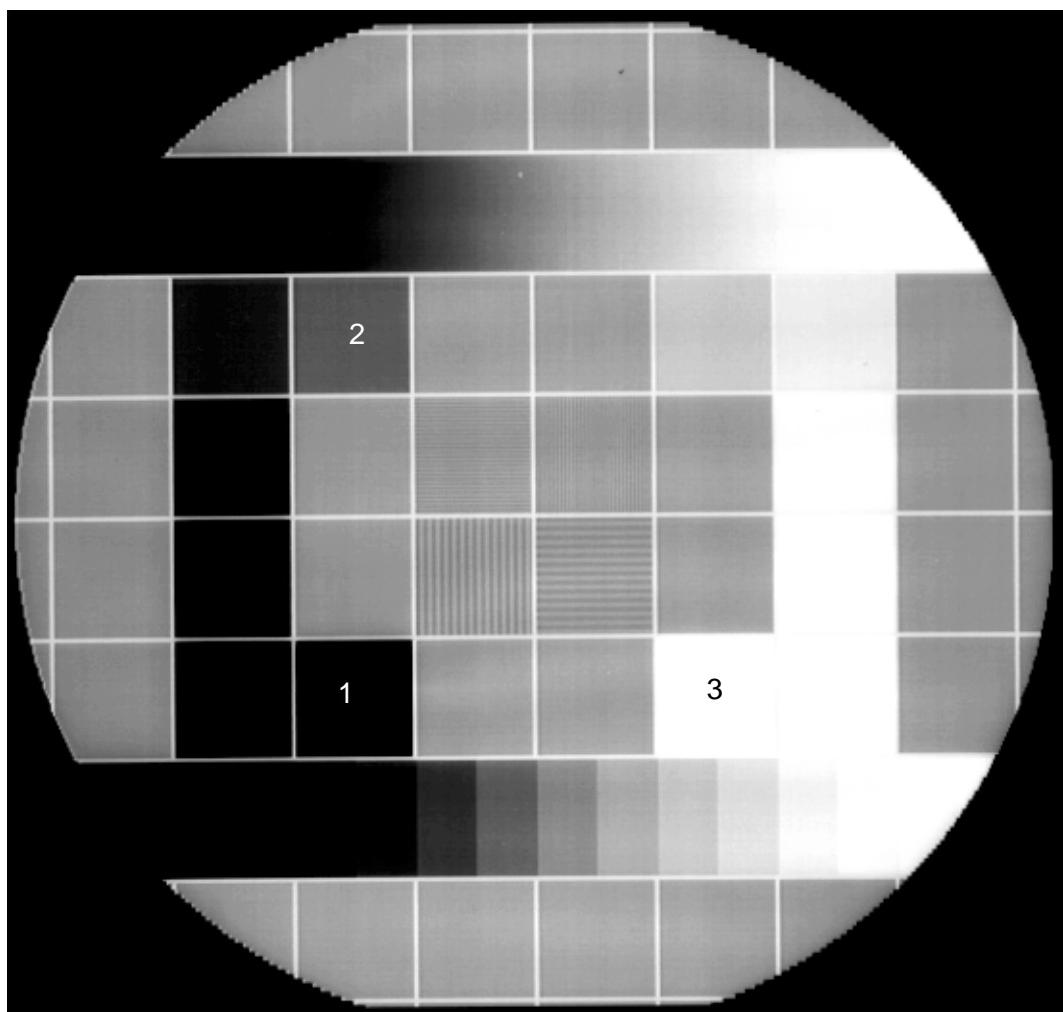

Fig. 1
- Change B until the 40% gray level (see Fig.1) corresponds to the nominal value for the film density Dnom (see Tables 3 to 6).